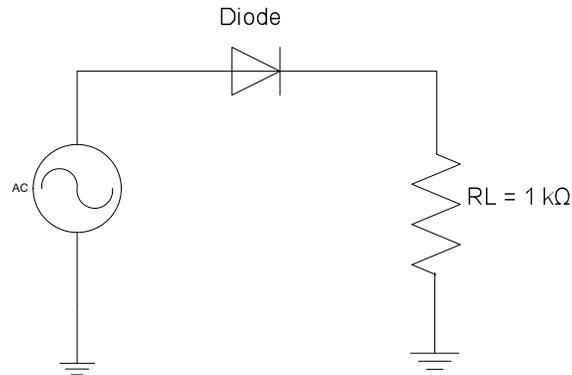

Figure 2 Half-wave rectifier circuit
18. Connect the circuit as shown in Figure 2.